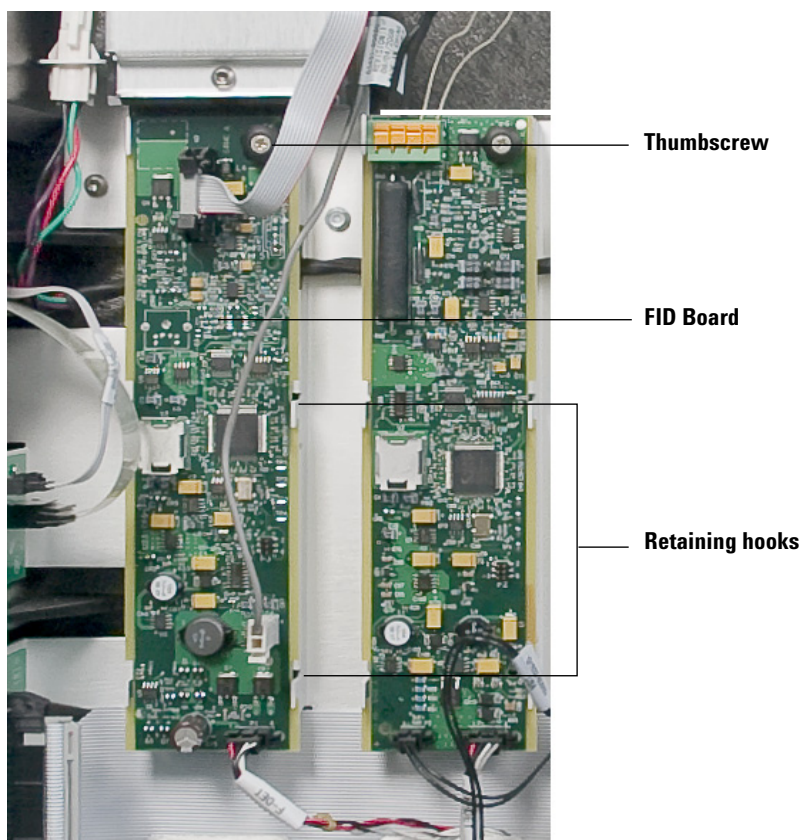

Figure 7 Attaching the FID board
- 4 Starting with the board notches below the retaining hooks on the GC frame, slide the board up so that all slots engage all hooks, the board lies flat and evenly on the frame, and the captive thumbscrew aligns directly over the screw hole. (See Figure 7.)